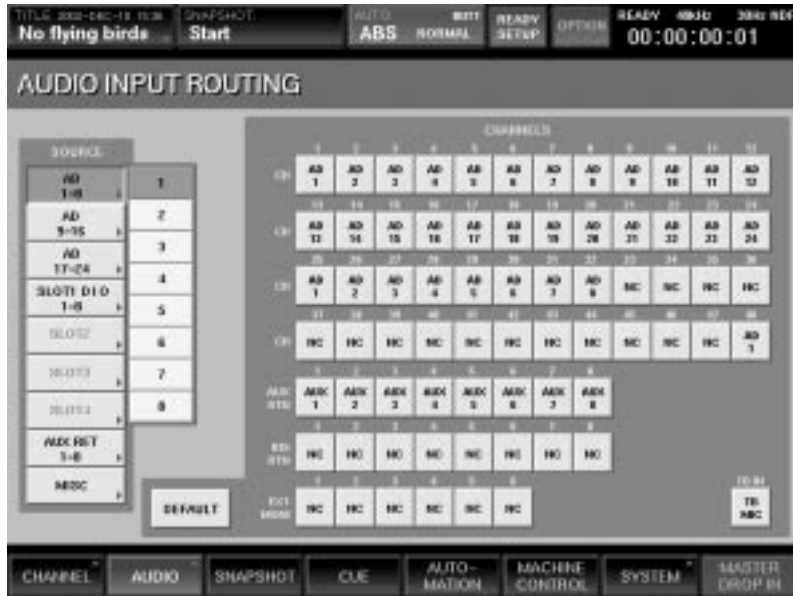

Figure 16
- To complete the patch, select the individual source, then select the channel. For example, to patch AD input 1 (the signal connected to the first head amplifier) to input channel 48, press the AD 1-8 box a second time and then press the box labeled "1." Finally, press Channel 48. (See Figure 16)